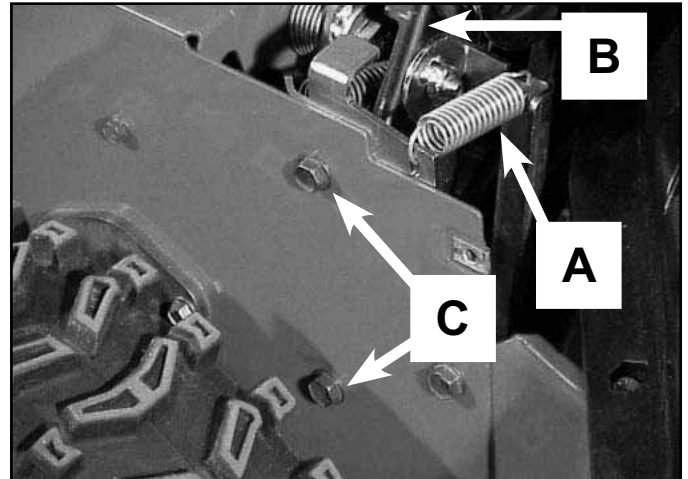

Fig 060
3. Remove the brake assembly for more working room. Disconnect the spring, then remove the two bolts through the side plate (Fig. 060).